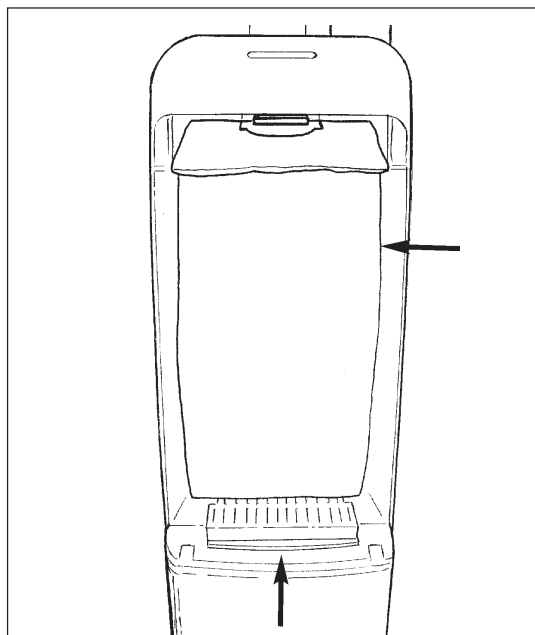

Figure 21
5. Replace filter cartridge and filter bag (see figure 21).